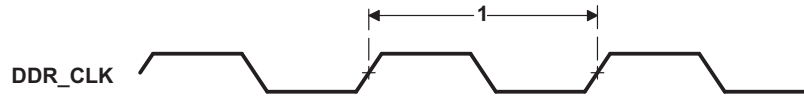

Figure 7-18. DDR2 Memory Controller Clock Timing
Table 7-23. Switching Characteristics Over Recommended Operating Conditions for DDR2 Memory Controller^{(1) (2)}(see Figure 7-18)